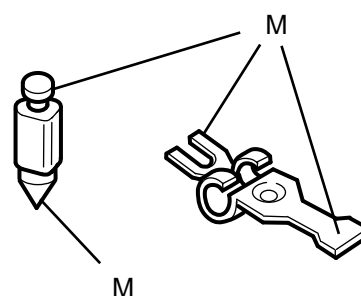

Fig. 11
See figs. 11 and 12 and check the following:
3. The needle valve and its lever arm are not worn at M in fig. 11.